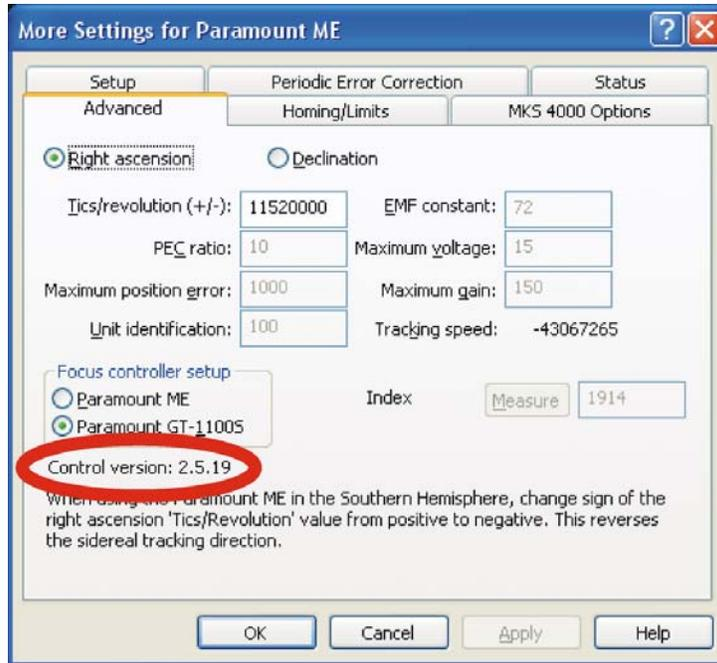

Figure 74: Advanced tab of the Paramount ME More Settings dialog box showing the firmware or “control” version.
4. Click the **Advanced** tab. The firmware or **Control Version** is listed near the bottom of this window. See Figure 74.